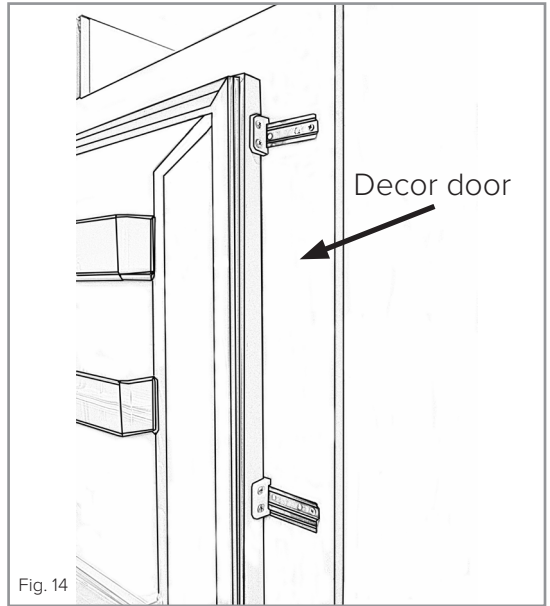

Fig. 14
- The finished look for the door sliders should be similar to those shown in Fig. 14, which shows 2 sliders in place.